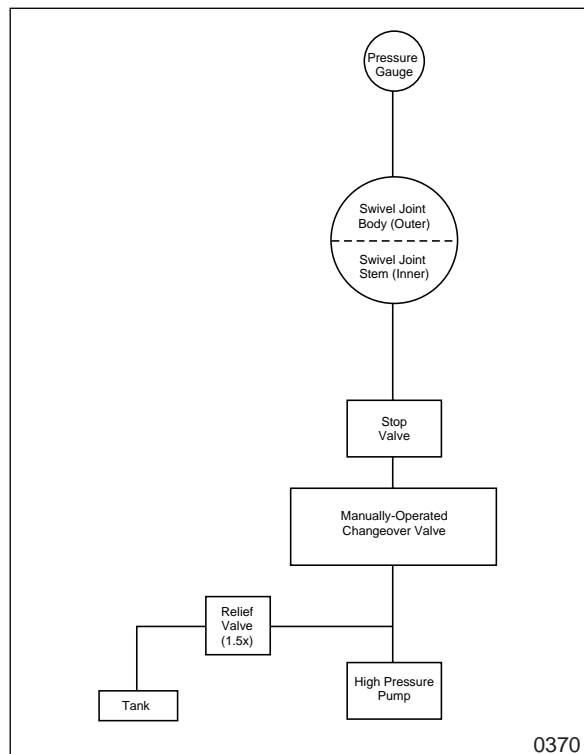

Figure 2
**NOTE:** *The same type of kit can also be made up for the drain port (return line) side of the center joint. Use appropriate piping, connectors, test gauges, etc., and follow the same block diagram general layout (Figure 2).*